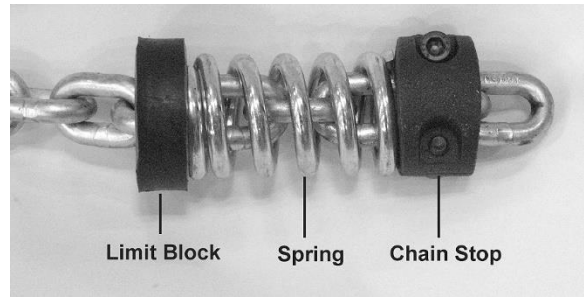

Figure 13-1
4. On the slack end of the chain, remove the chain stop, spring, and limit block (Figure 13-1). Keep these handy for later re-installing.